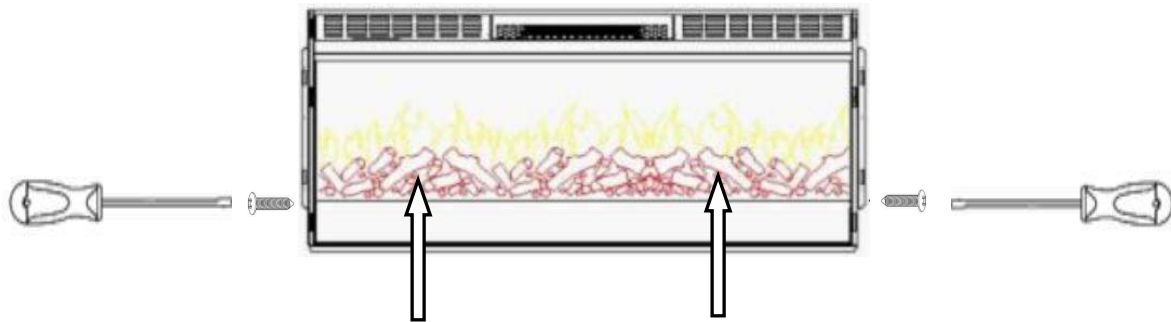

Figure 1.
C.Place unit face down on a soft, non abrasive surface. Remove the bracket from the back of the unit by removing the screws, refer to Figure 1.
- B. If your fireplace come with logset, just use as it it. If you want to replace with crystals using the screw driver to take off screws on both sides to remove the logset from the fireplace. **Figure 1.**